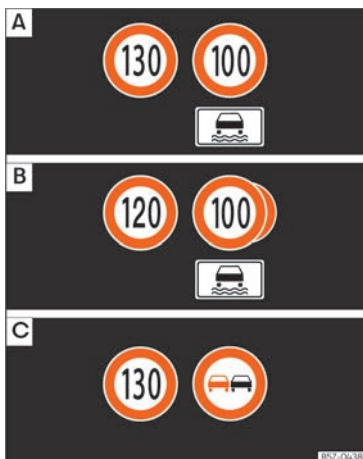

Fig. 13 On the instrument panel display: examples of speed limits or overtaking prohibitions with their respective additional signs.
The road signs detected by the system are displayed on the instrument cluster display >>> Fig. 13 and, depending on the navigation system fitted in the vehicle, in the infotainment system as well.
After checking and evaluating the information from the camera, the navigation system and the current vehicle data, the system displays up to three current road signs >>> Fig. 13 [A] with their additional signs.
- **First:** The sign that is currently valid for the driver is shown in the left side of the screen. For example, a maximum speed limit of 130 km/h (100 mph) >>> Fig. 13 [A].
- **Third:** Thirdly, a sign prohibiting overtaking is partially displayed. If there is no conditional speed limit and overtaking is prohibited, the latter sign will be displayed in second place >>> Fig. 13 [C].